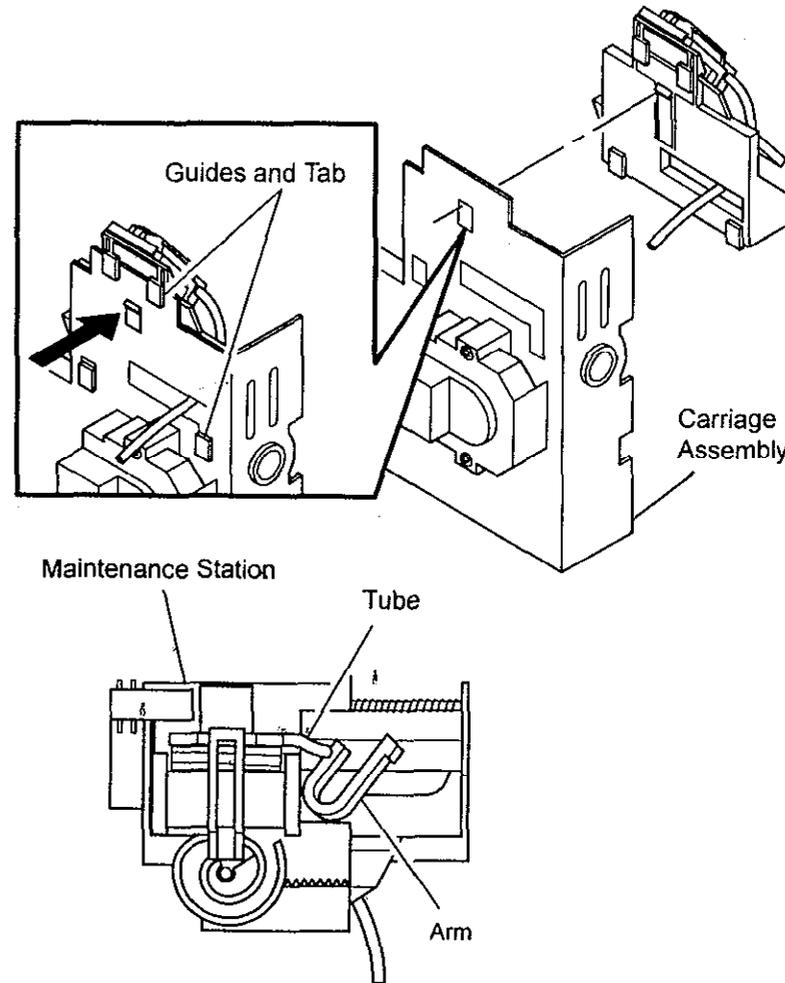

Figure 1 Replacing the Maintenance Station
1. Ensure the four (4) guides and the locking tab are engaged (Figure 1).
2. Ensure the Maintenance Tube is positioned in the clamp behind the arm (Figure 1).